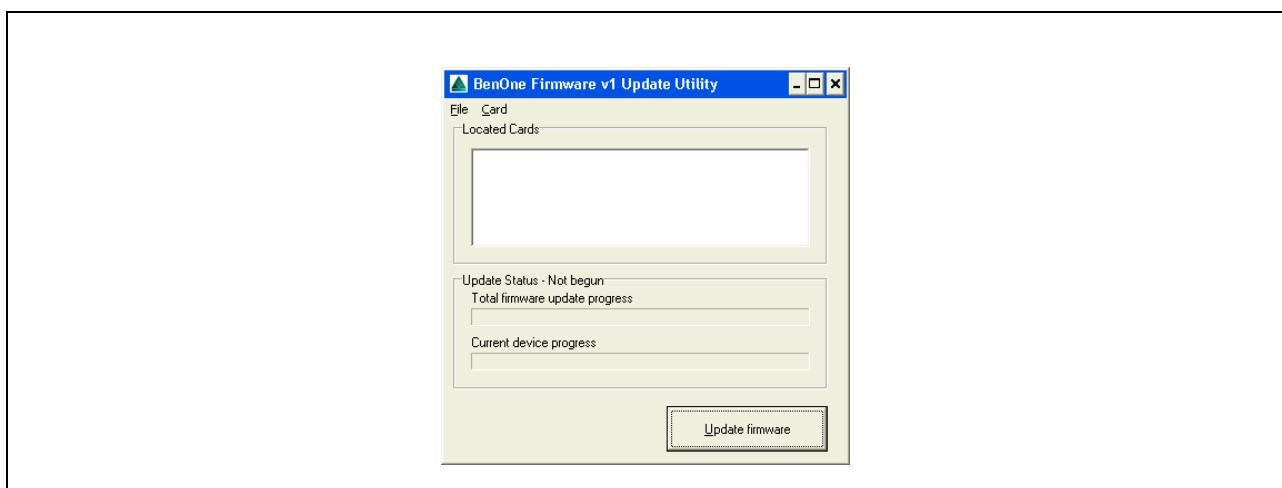

Figure 150: Firmware Update Utility
2. After the PC starts up, click on the Windows start menu and launch '**Programs->XtremeDSP Development Kit-IV->Software->Update to PCI Firmware Only**'. Alternatively open Windows Explorer and navigate to the firmware folder in the XtremeDSP Development Kit-IV installation and run the Benone_32PCI_64PCI.exe program (see Figure 150 on page 224).
3. Double click on file Benone_32PCI_32PCI.exe to launch the application (see Figure 150 on page 224).